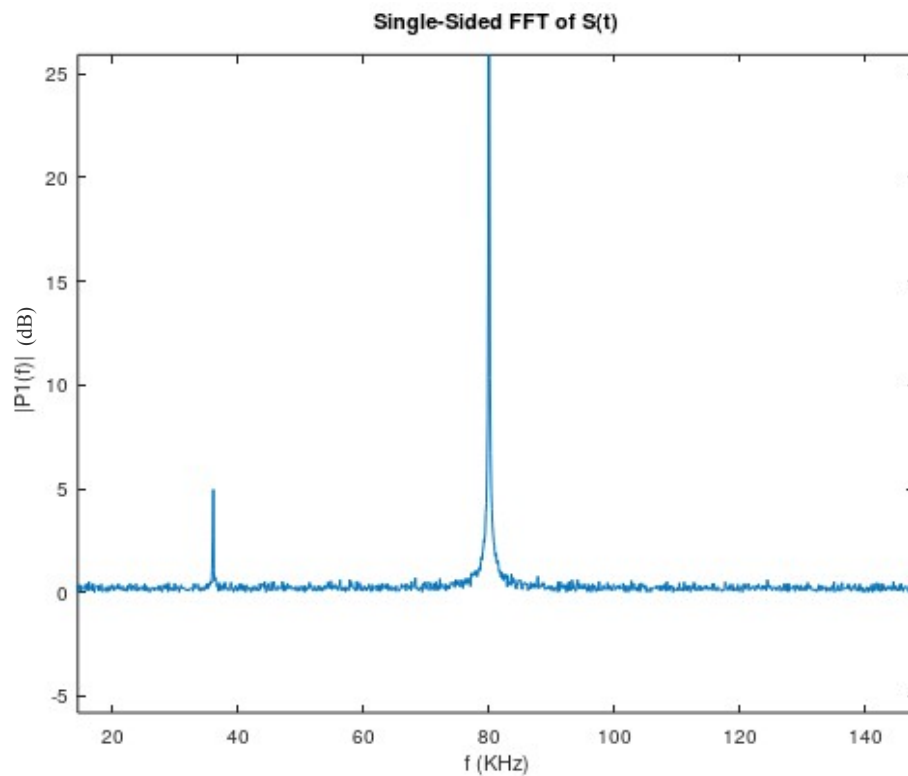

Figure 3: Testing with 80 kHz input, a zoomed in view of the frequency plot
1. What is the direct current (DC) offset error of the ADC when it is connected to 0 V? [5 marks]
2. A further test was done in which the signal generator was told to generate a frequency of 80 kHz. The frequency plot generated from an FFT is shown in Figure 3. Use this data to determine the Spurious-free Dynamic Range (SFDR), providing your answer as either power or SNR. [5 marks]